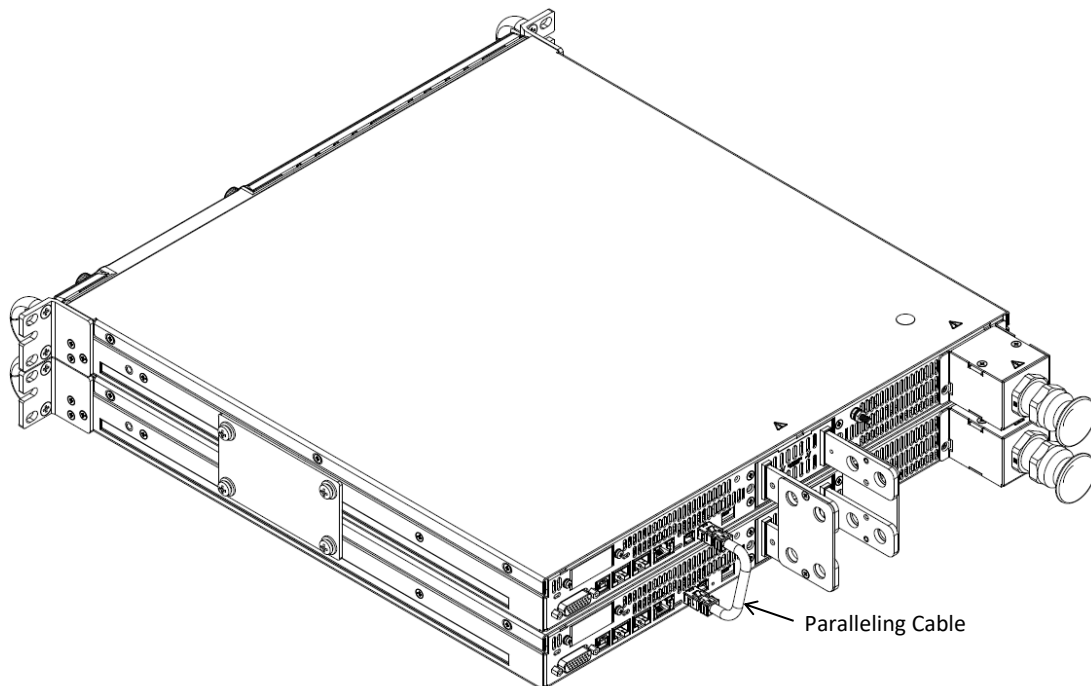

Figure 3: Two 10V Units Paralleling Cable Connection
3. Connect paralleling cable from top unit M connector to bottom unit S connector as illustrated in Figure 3.